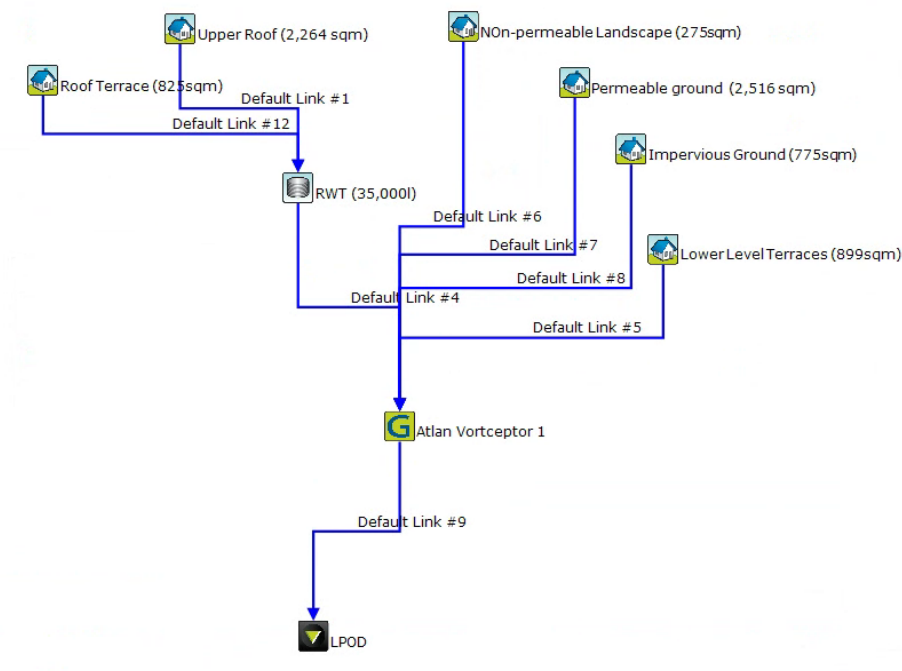

Figure 2 – MUSIC Model
The development demonstrates an improvement on the stormwater quality performance objectives as outlined in the Urban Stormwater Best Practice Environmental Management Guidelines (Victoria Stormwater Committee, 1999) for reduction in total suspended solids (TSS), total phosphorus (TP) and total nitrogen (TN) loads. Refer Figure 2 and Table 1 below for the stormwater quality performance objectives and results.